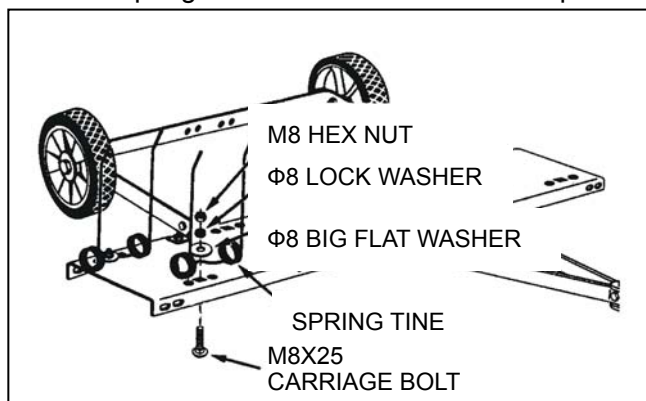

FIGURE 7
13. Fasten ten spring tines to the square holes in the bottom of the tine shield. Use a M8x25 carriage bolt, $\Phi 8$ big flat washer, $\Phi 8$ lock washer and M8 hex nut for each spring tine. Tighten. See figure 7.